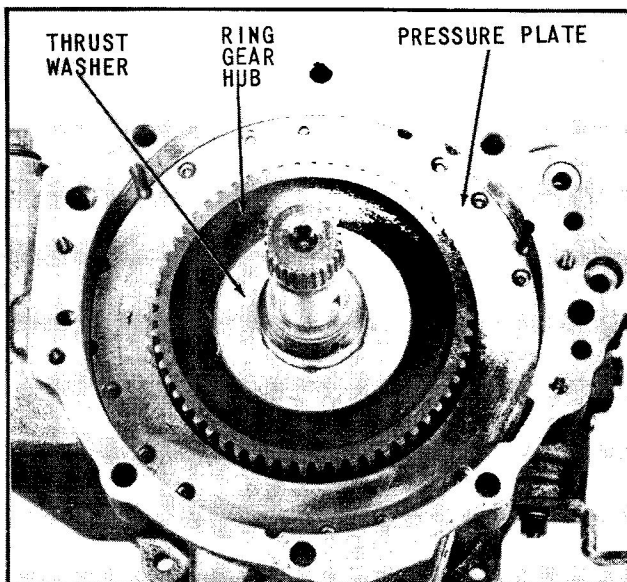

Fig. 49 Ring Gear Installed
16. Using a twisting motion, to align gears, carefully lower ring gear over input shaft and carrier assembly, (Fig. 49).
17. Install thrust washer on front face of ring gear hub, (Fig. 49).
18. Install one of the reverse clutch pressure plates and three dowel pins, positioning the plate with V notch located next to bolt hole, (Figs. 49, 50 and 51).